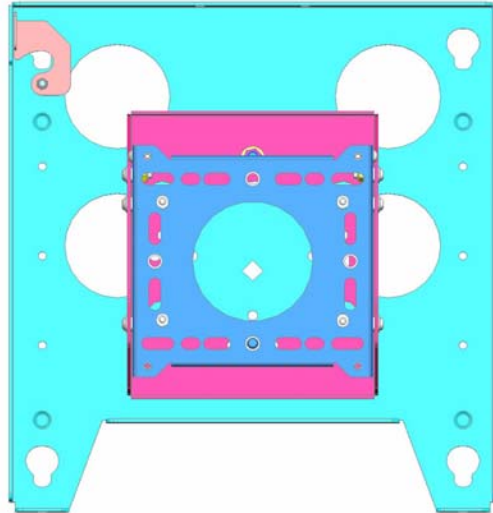
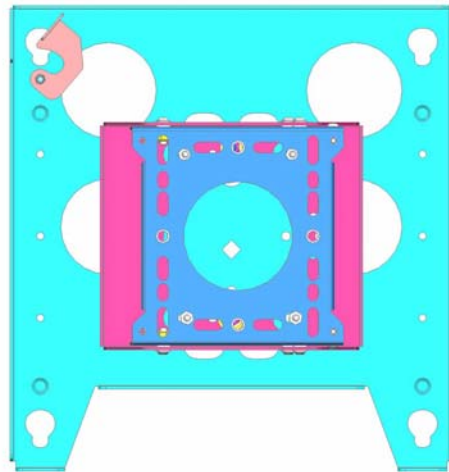
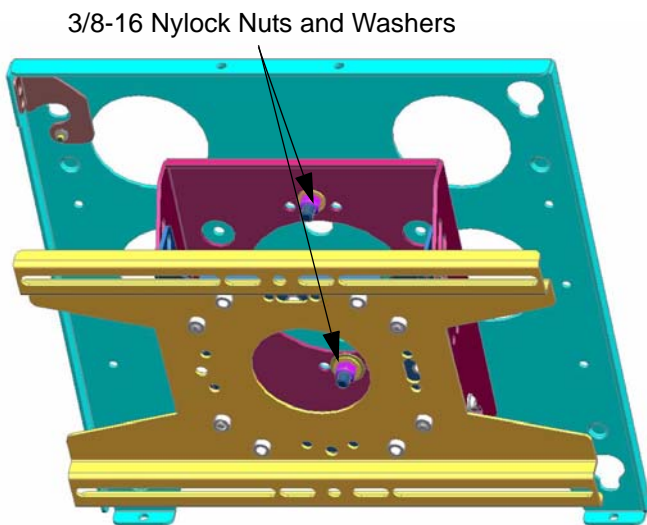
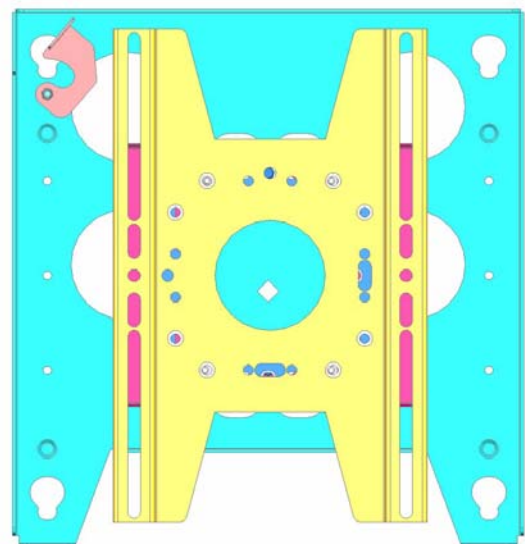

Figure 4. Vertical Tilt Shown without Back Plate for Clarity
Figure 5. Horizontal Tilt Shown without Back Plate for Clarity
Figure 6. Vertical Truss Shown with Back Plate
Figure 7. Horizontal Truss Shown with Back Plate
6. Install the face plate in the desired position (see Figure 4, Figure 5, Figure 6 and Figure 7) on the pitch-adjustable plate and secure using two 3/8-16 Nylock nuts and washers in any matching set of radial holes slotted to allow slight roll adjustment.